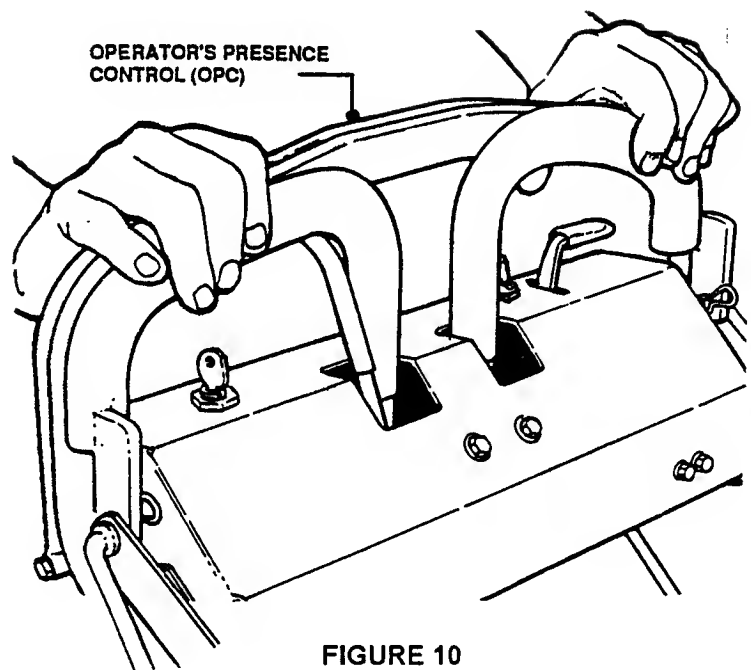

FIGURE 10
- 8a. **LOOP HANDLE** - Depress Operator's Presence Control against handle. See Figure 10.